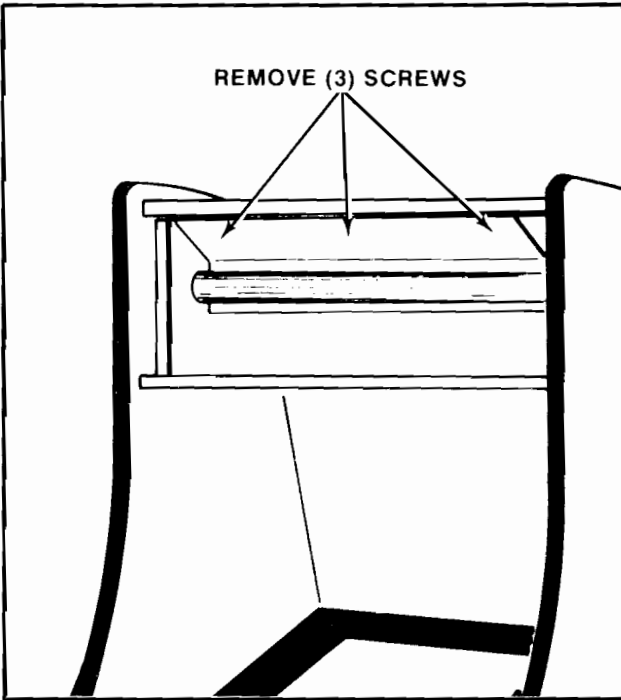

Figure 3-8 Replacing Fluorescent Tube Mounting Bracket & Speakers
- Replacement of the fluorescent tube mounting bracket assembly. See Figure 3-8.